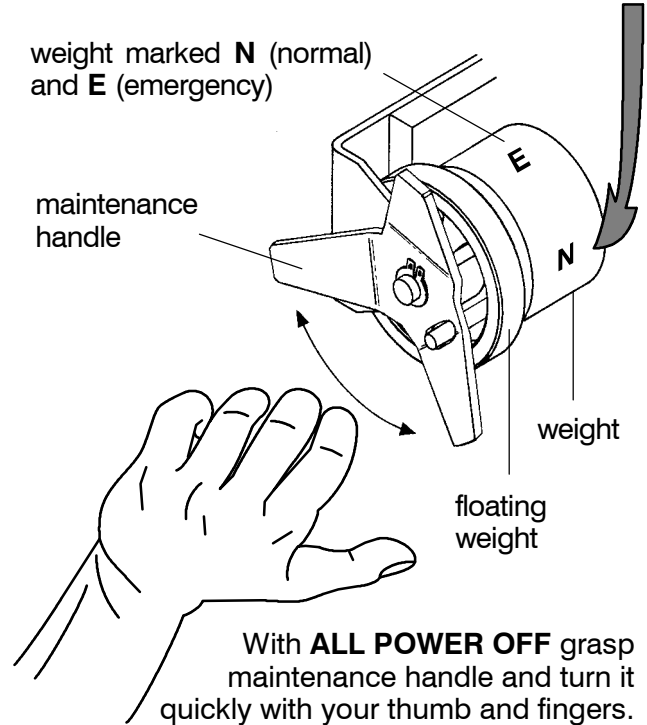

Figure 1-4. Maintenance handle and positions.
1. After deenergizing both power sources, open the enclosure door. Locate and the maintenance handle on the left side of the transfer switch frame. See Figure 1-4.